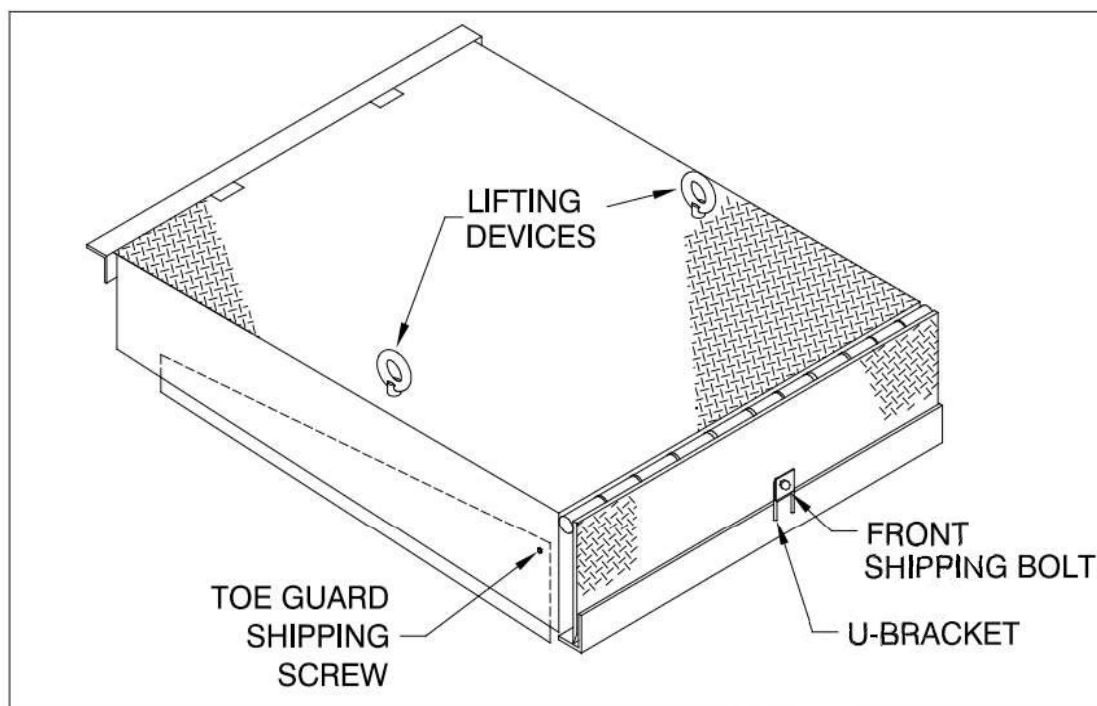

Figure 46: Shipping Wire, Bolts and Lifting Devices.
15. __ Remove the shipping wire. Then remove the top shipping bolts (if equipped) and front shipping bolts and lifting brackets. (See “Figure 46: Shipping Wire, Bolts and Lifting Devices.” on page 37).
3. ___ Support the lower half of the toe guard and remove the self tapping screw which holds it in the shipping position. Carefully lower the toe guard and avoid pinch points (see “Figure 46: Shipping Wire, Bolts, and Lifting Devices.” on page 39)